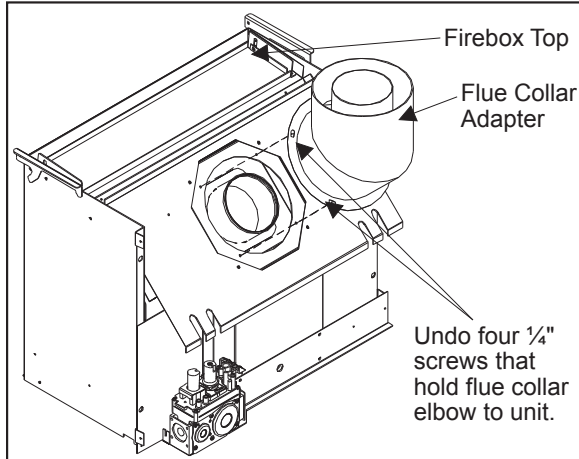

Figure 34: Step 3 of Converting Top Vented into Rear Vented.
2. Remove the four (4) 1/4" screws that hold the flue collar elbow to the unit body (see Figure 34).